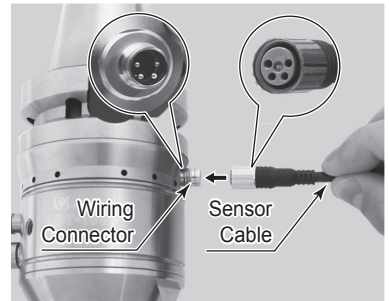

Fig. 16
- (2) Carefully insert the Holes (4 locations) on the Sensor Cable into the Pins (4 locations) on the Piping Connector, then push straight into the Piping Connector (Fig. 16).